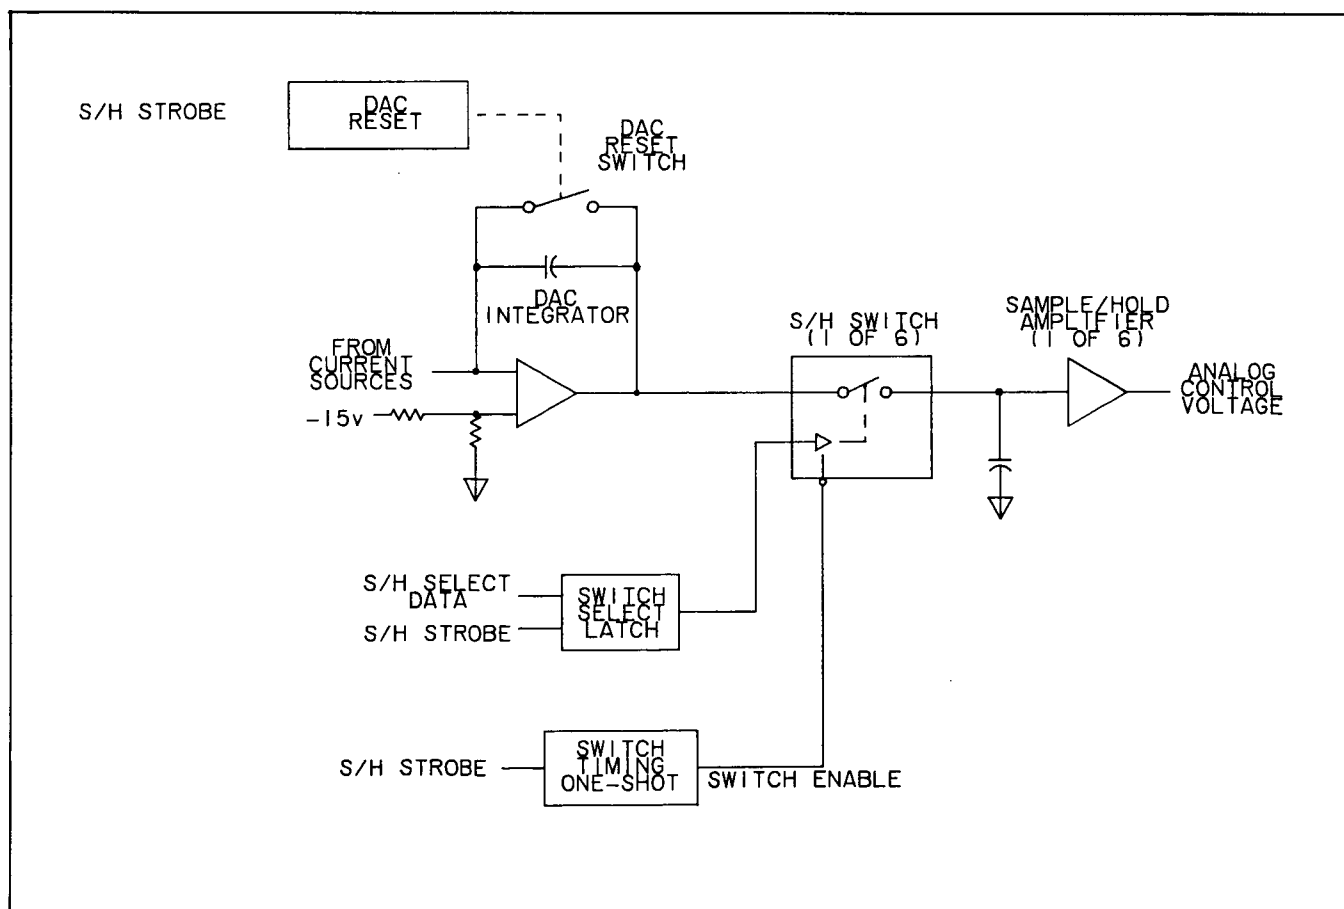

Figure 8-17. DAC Sample/Hold.
**8-61. DAC Sample / Hold Circuits.** After the Preset Counters have finished counting and the current sources are disabled, the DAC Integrator output voltage must be transferred to the proper Sample / Hold Amplifier. Figure 8-17 is a simplified diagram of the DAC Sample/ Hold circuits. The data that designates one of the six Sample/ Hold Amplifiers is clocked into the latch by the S/H Strobe pulse. The S/H Strobe pulse also triggers a switch timing one-shot which enables the switches to close long enough to transfer the DAC Integrator voltage to the capacitor at the input to the S/H Amplifier.